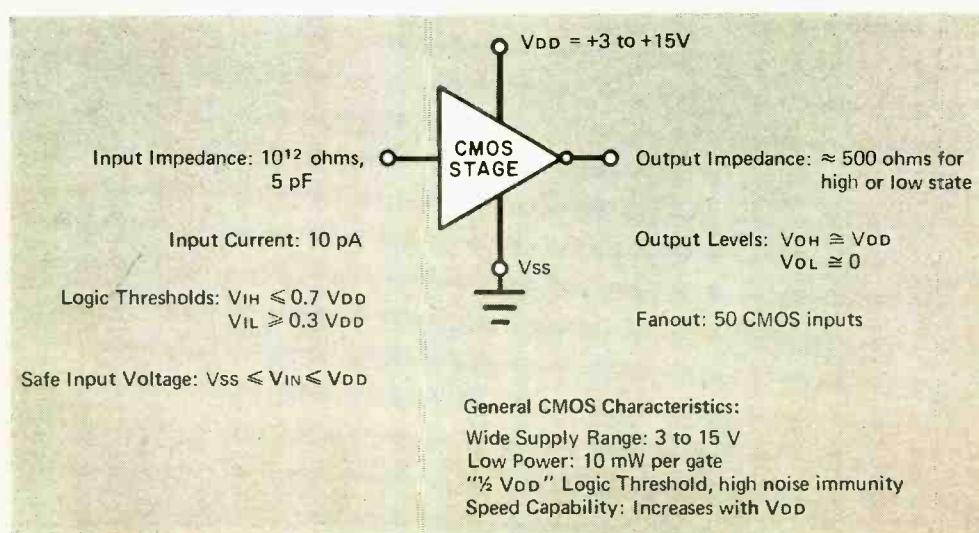

Fig. 5. Capsule summary of CMOS logic stage.
**Summary of Characteristics.** Before getting into other logic functions and the CMOS family, it is a good idea to note again the characteristic highlights. This is done in Fig. 5.
(1) Keep unused devices in conductive foam (in which most of them are packed) or
(5) Don't allow unused inputs to float. Tie them high or low according to their function (AND high, OR low), or tie them in parallel with a like input from the same gate. Input leads which go off the board should not be left hanging since, when the board is removed, they will be floating. A simple 1-megohm resistor to ground will solve this problem. In the CD4007AE and CA3600E units, connect unused p and n sources to  $V_{pp}$  and  $V_{ss}$ , respectively (for example, 2 and 11 to 14 or 4 and 9 to 7).